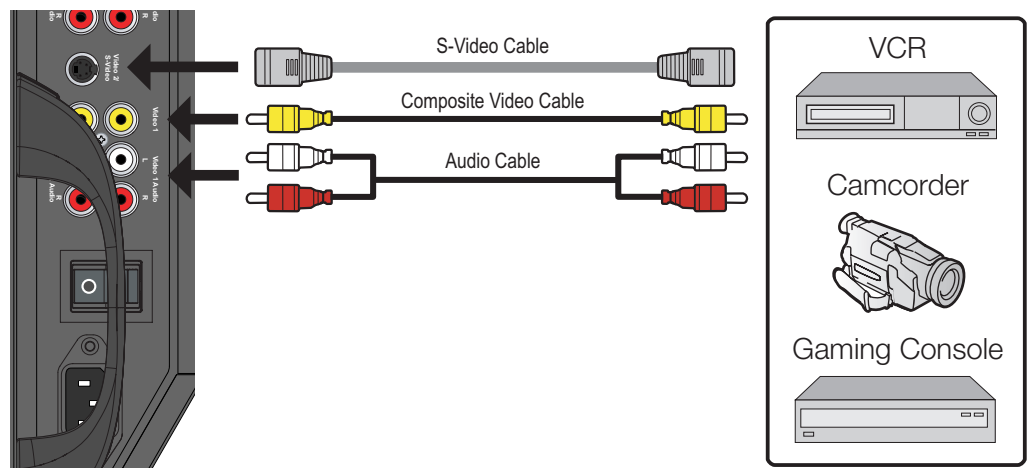

Figure 3-4. Composite and S-Video Connections
Composite/S-Video Connections: The Crystal Series LCD has two (2) Composite video inputs and an S-Video input for connecting a VCR, camcorder, laser disc player or DVD player; see Figure 3-4.